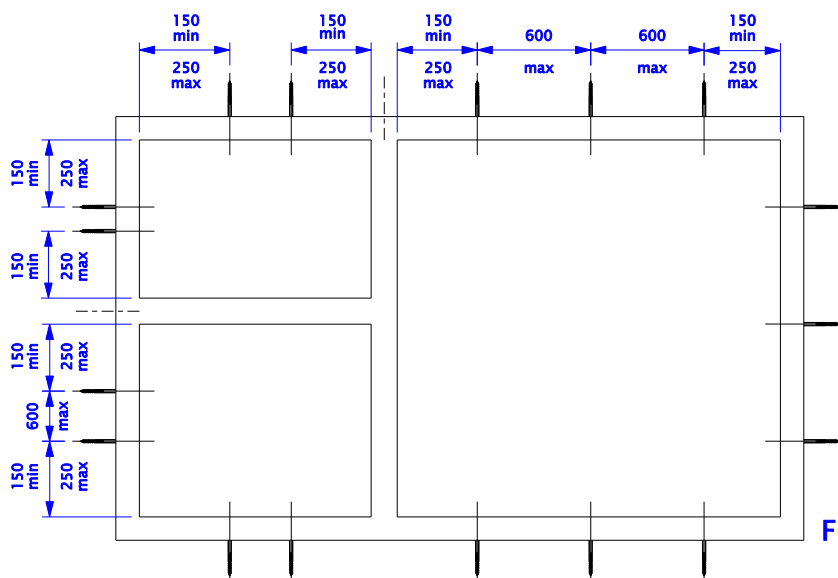

Fig 1.
2. Fix the window into the aperture using either fixing brackets or by drilling and fixing through the outer frame. Fixing locations should be no closer than 150mm from corners and intermediate transoms/mullion joints and at max. 600mm centres elsewhere (see Fig 1.)